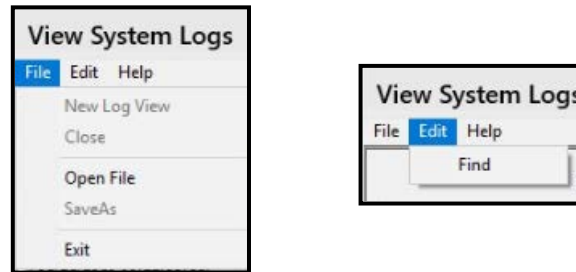

Figure 166: System Log Options
- Click **File** and make the appropriate selection from the drop-down list or click **Edit** and then **Find**, (ref: Figure 166) enter the desired search criteria and click the **Search** button.